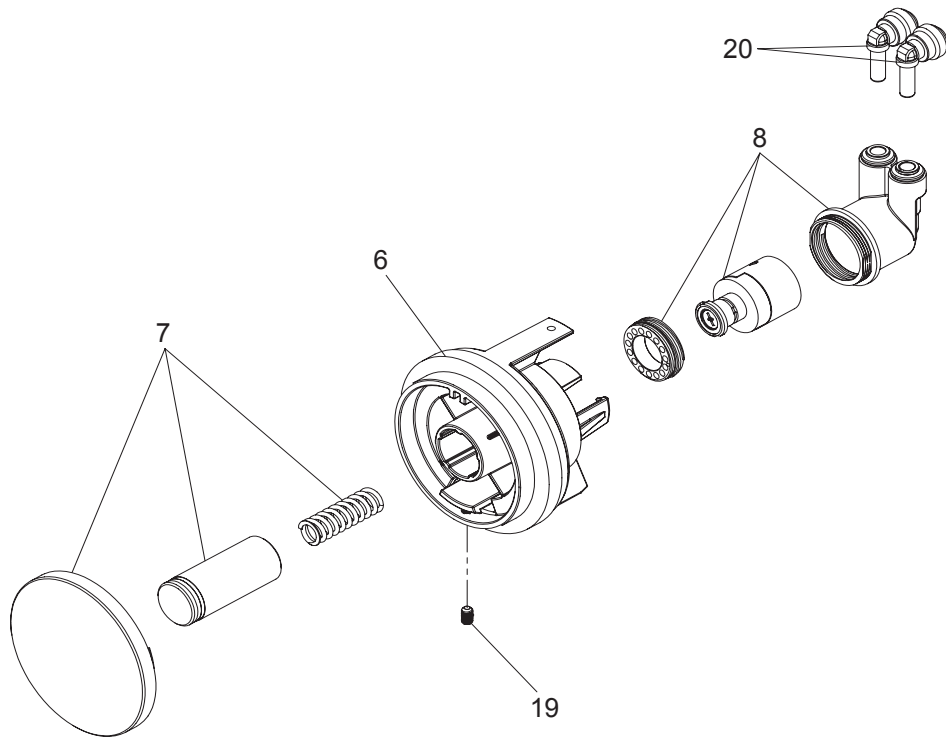

Figure 9 - Push Button Assembly
15. **Check** stream height from bubbler. Stream height is factory set for 35 PSI supply. If supply pressure varies greatly from this, remove push button (Item 7 - Fig. 9) and adjust the screw on the regulator (Item 8 - Fig. 9). To remove push button, remove setscrew from bottom of sleeve (Item 19). Insert a small punch in screw hole and push up while grasping the push button and pull forward removing the push button. Clockwise adjustment will raise stream height and counterclockwise movement will lower stream height. For best adjustment stream should hit basin approximately 6-1/2" from the bubbler. Reassemble the push button by pushing in on button until the push button catches in the sleeve. Reinstall the setscrew (Item 19 in the sleeve).